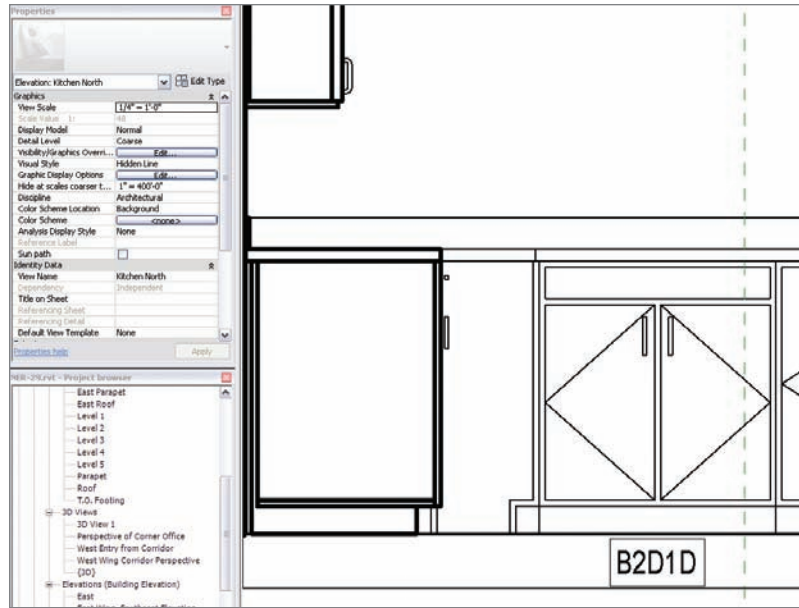

FIGURE 11.87 Renaming the tag
9. Rename it to B2D1D, as shown in Figure 11.87, and then click Yes.